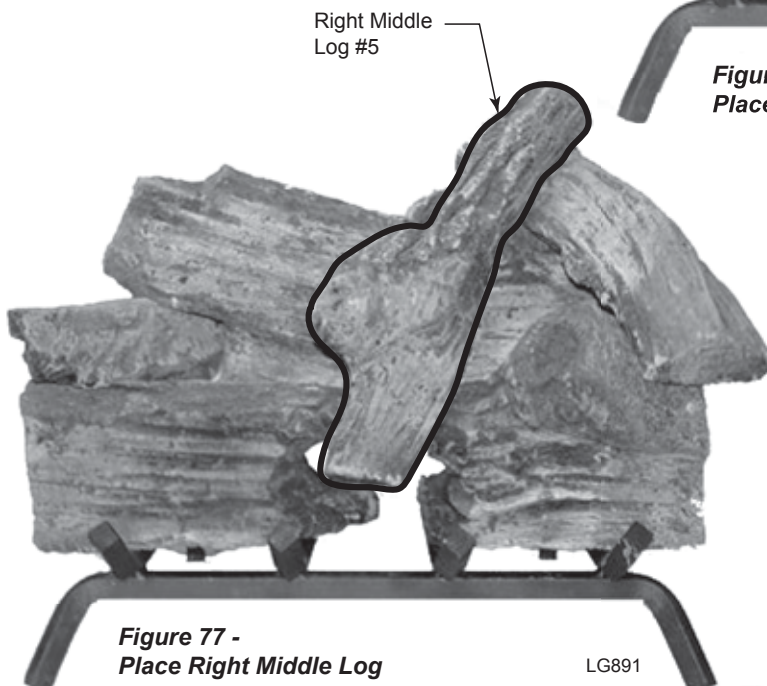

**Figure 77 -
7. Place back end of Right Middle Log #5 on top right of Log #4. Rest front of Log #5 on top right of Log #3. *Figure 77*